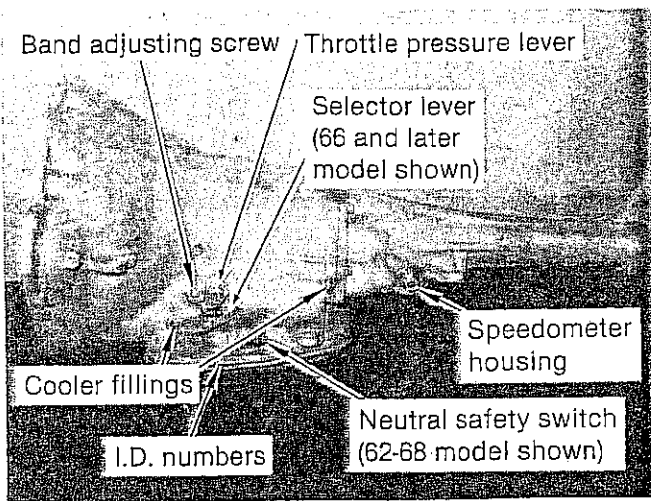
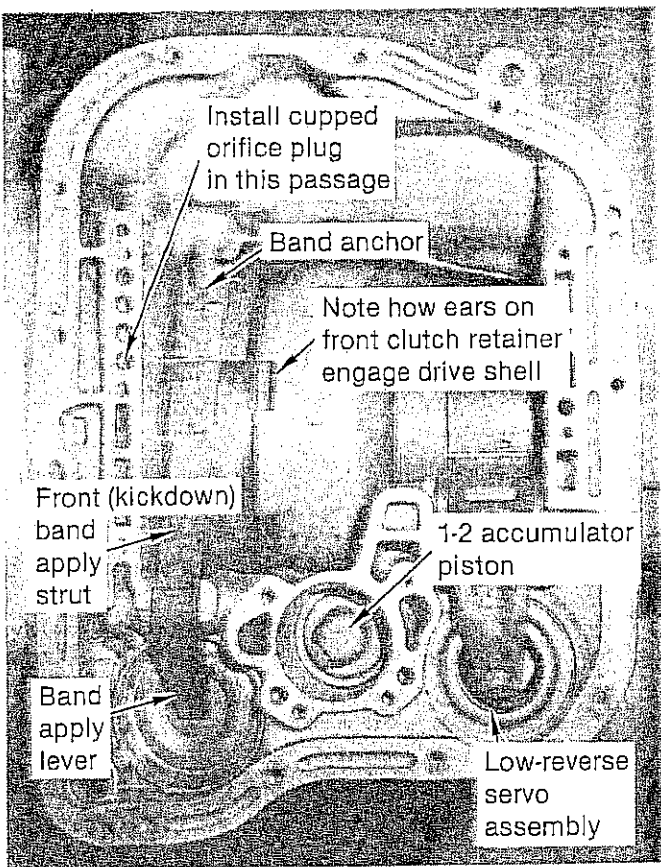

FIGURE 1
FIGURE 8
**STEP 3.** Loosen and disconnect oil cooler lines. Try to use a fitting wrench to avoid damaging the compression fitting nuts on stock oil cooler lines. (See Fig. 1)
There have been several different model Torqueflite transmissions produced since 1962. Where there are differences in disassembly procedures they will be so noted in the instructions. If you find it necessary to replace any transmission hard parts during TransKit installation, make sure to use the serial number stamped into the left side of the case just above the pan when you go to your Chrysler dealer. (See Fig. 1)
**STEP 3.** Remove and discard the large 1-2 accumulator spring that was under the valve body. Loosen and remove the band adjusting screw and locknut. (See Fig. 1) Remove the band anchor and apply strut. (See Fig. 8)
**STEP 14.** Remove accumulator piston by pulling straight out. (See Fig. 8) Remove and discard metal seal rings on the piston. Discard spring if there is one under the accumulator piston.
**STEP 16.** Remove the low/reverse servo snap ring. (See Fig. 8) Again hold your hand over the retainer so it doesn't fly out. Remove the retainer. Remove and discard the servo spring. Remove the servo piston.